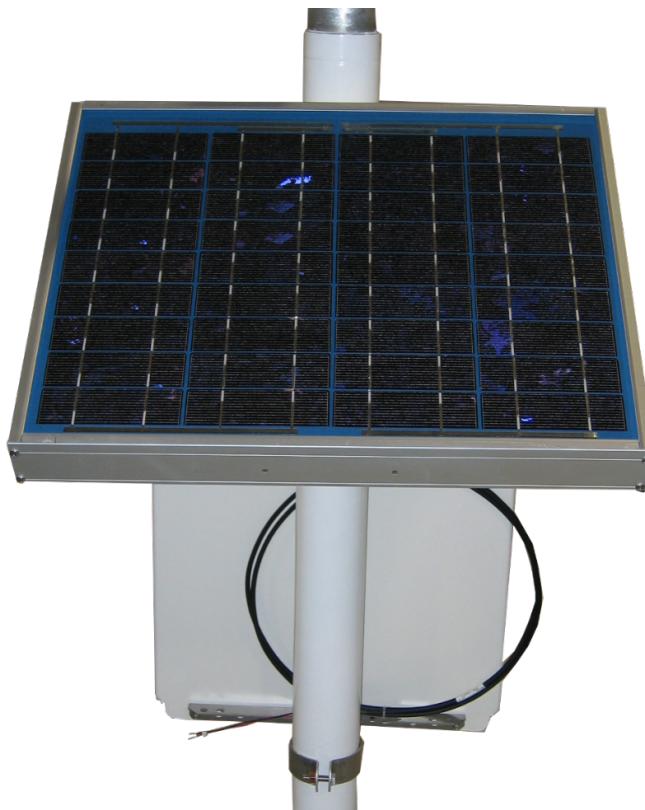

FIGURE C-9. Fully mounted solar panel
7. Install the solar panel above the PS24 enclosure, and face the solar panel south (FIGURE C-9 (p. 98)).